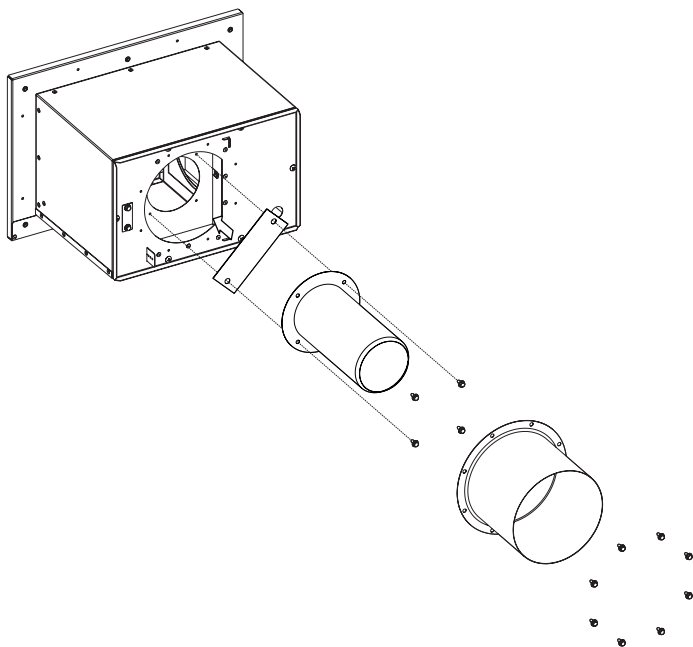

Figure 2
1. Attach the flue restrictor under the smaller pipe from the Dura-Vent adaptor with the 4 #10 X 1/2 inch screws. If the vent run is in the white section of the blender door setting chart, attach the smaller pipe from the Dura-Vent adaptor without the restrictor using 4 #10 x 1/2 inch screws as shown in **Figure 2**.